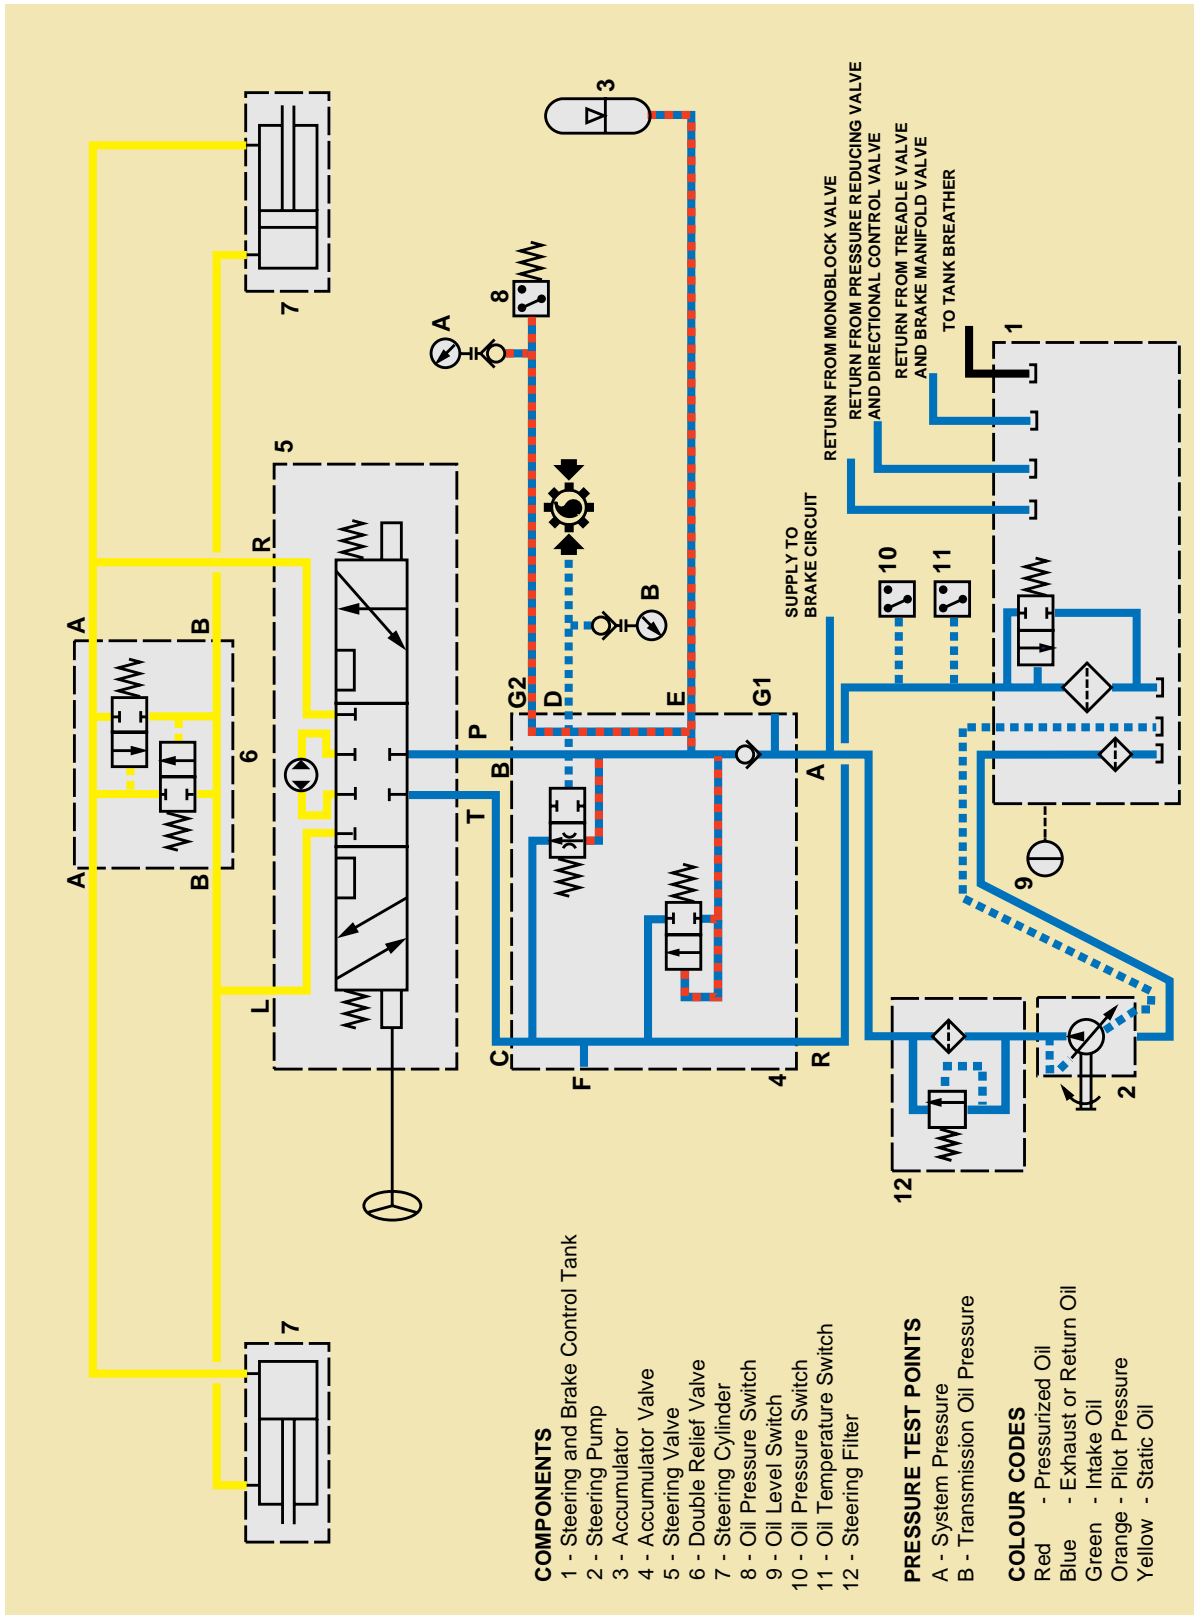
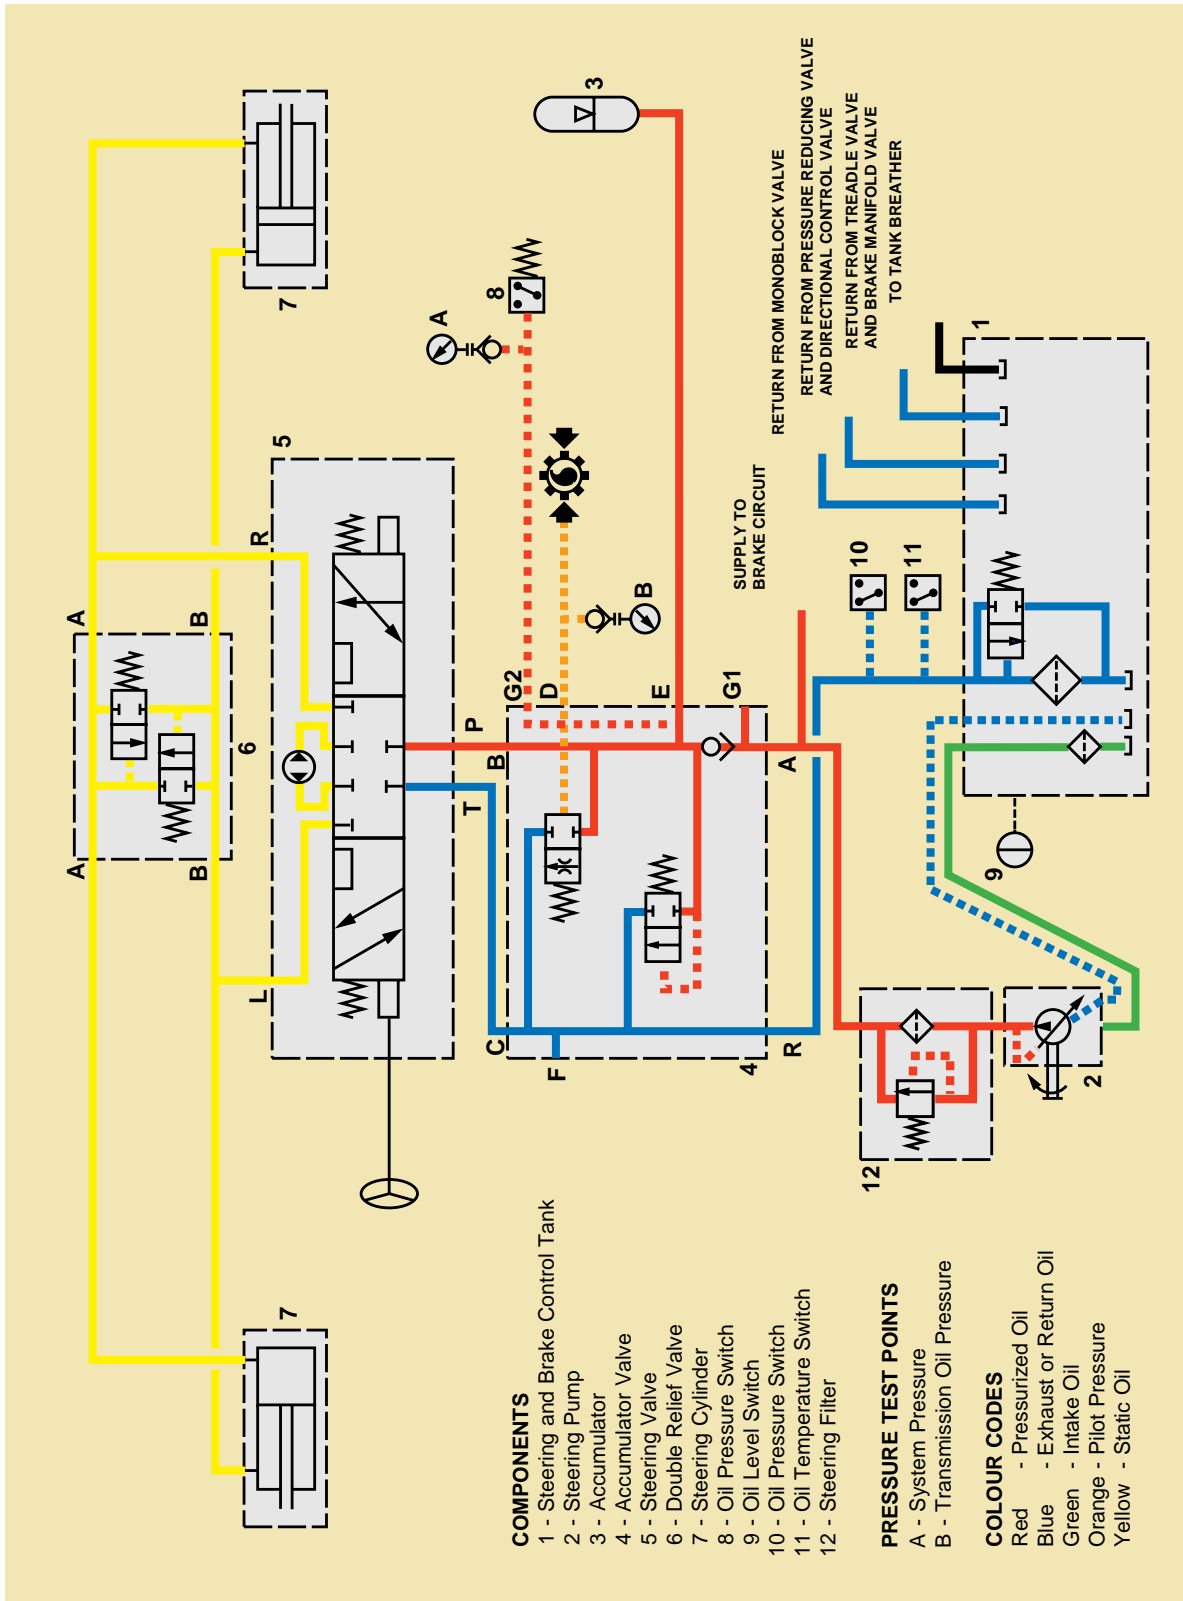
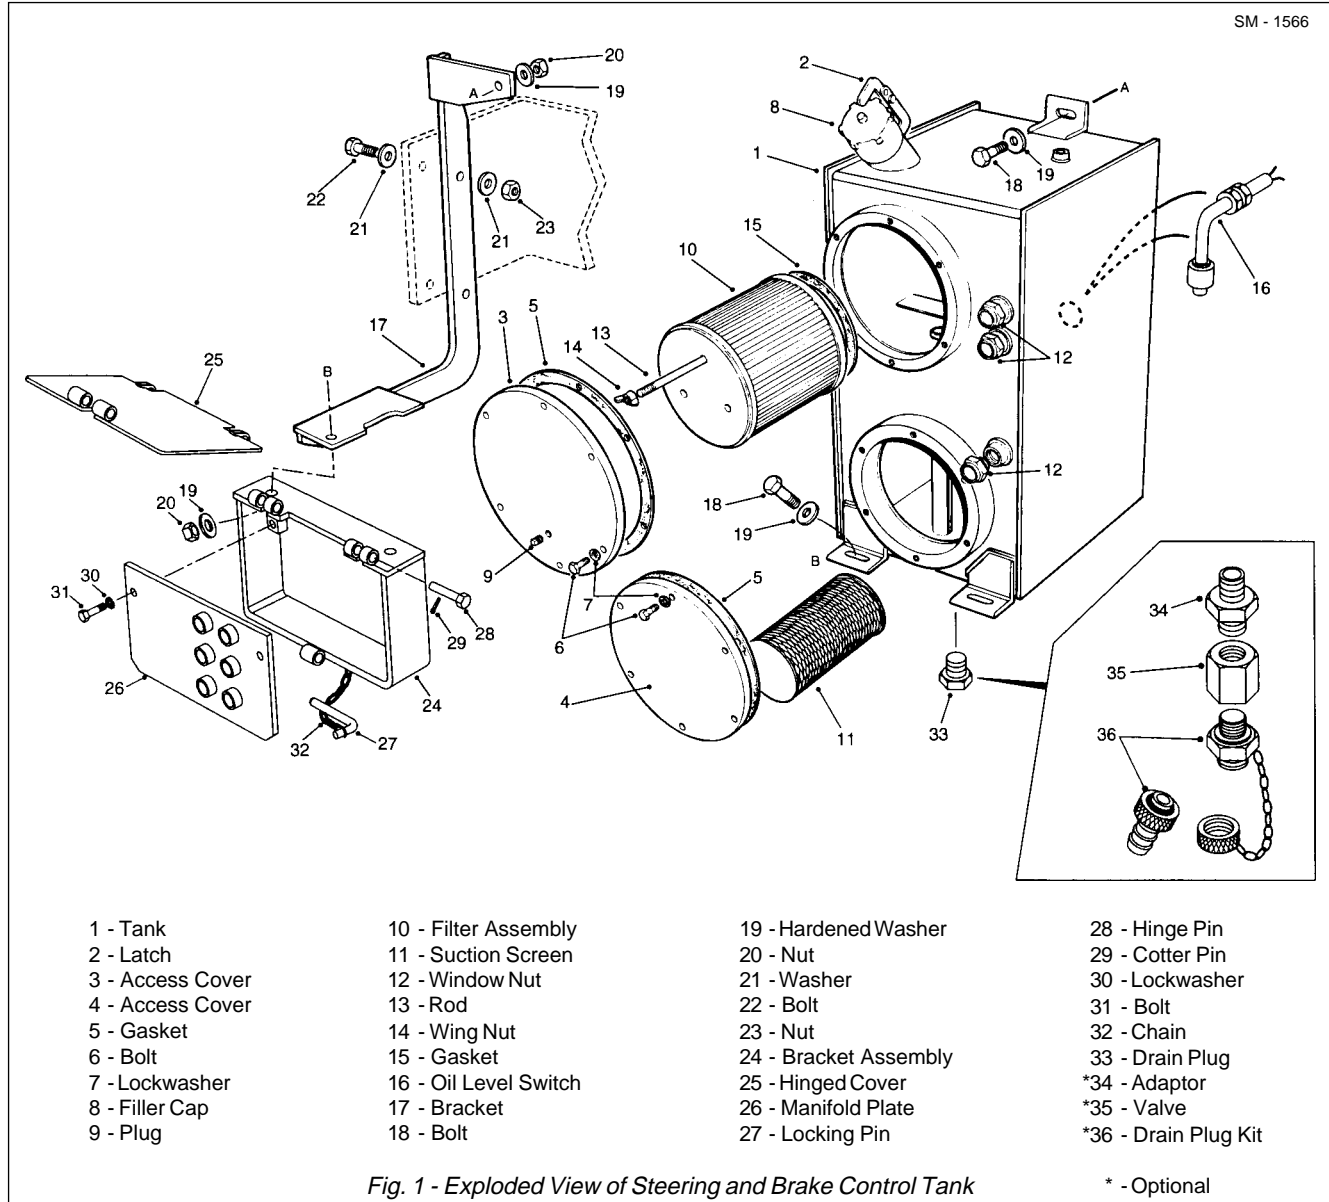

Fig. 2 - Steering System Schematic - Engine Shutdown
Fig. 3 - Steering System Schematic - Engine Running, Steering Valve Neutral
Fig. 1 - Exploded View of Steering and Brake Control Tank
Numbers in parentheses refer to Figs. 2 through 6.
Where hydraulic lines are fitted with ORFS connections, the following procedure should be carried out during 'Installation'. Refer to Fig. 1.
Numbers in parentheses refer to Fig. 1.
Numbers in parentheses refer to Fig. 1, unless otherwise specified. Letters in parentheses refer to Fig. 3. Refer to Fig. 2 for hydraulic schematic of steering and brake control tank.
Should filter assembly (10) become blocked, oil restriction pressure will increase and oil pressure switch (10, Fig. 2) will close sending a signal to the steering filter restriction warning light on the right hand dash panel, indicating that a filter change is required.
Note: Oil temperature switch (11, Fig. 2) opens when a temperature of 50° C (122° F) is reached. Oil temperature switch (11, Fig. 2) is connected in series with oil pressure switch (10, Fig. 2), therefore, steering filter restriction warning light will not illuminate until the oil reaches normal operating temperature.